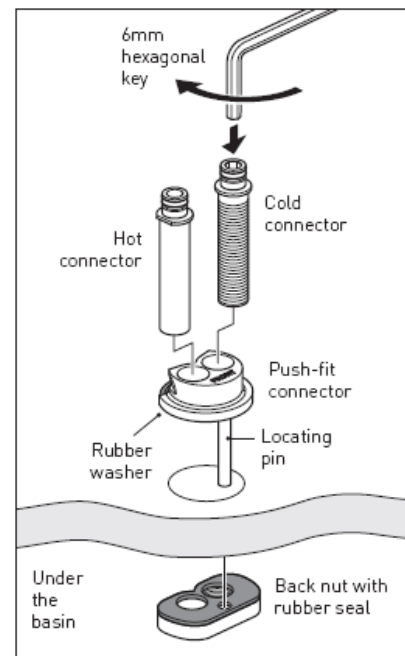

Fig 1: EasyFit Components
1. EasyFit Installation (see Fig1. for Details)
Drop the Hot and Cold connectors into the holes on the push fit connector as shown in Fig 1. A reinforcing plate (11) can be used to distribute the weight of the tap if fitted to thin worktops or stainless steel sinks. If required, this should be fitted underneath work surface above the back nut.